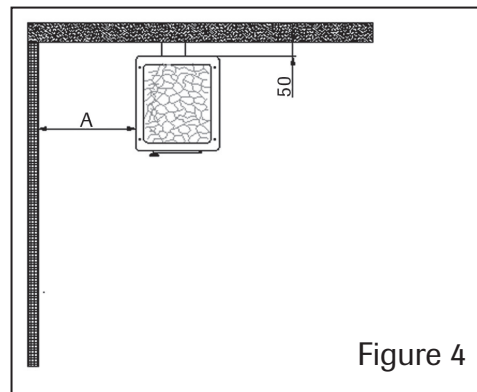

Figure 4
4. If the wall is a masonry wall, a 50 mm ventilation gap between the vertical sides of the sauna woodburning stove and the wall is sufficient. (Figure 4)